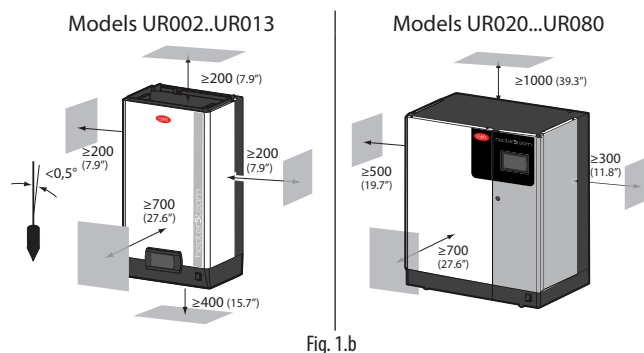

Fig. 1.b
- position the humidifier vertically, use a spirit level to ensure the base is perpendicular; observe the minimum clearances (see Fig. 1.b) to allow space for maintenance.